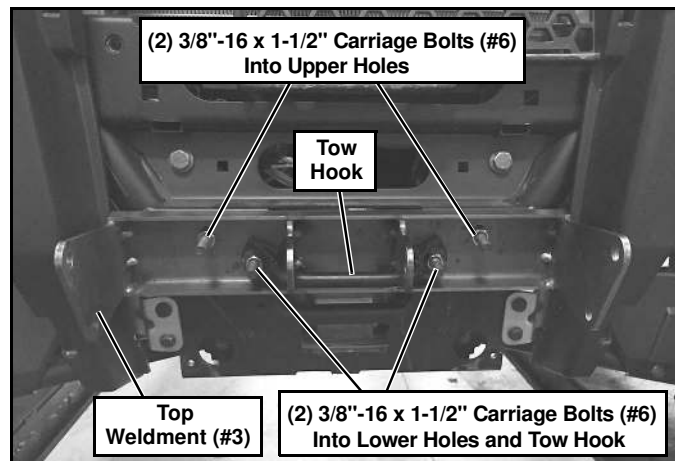

Figure 5
- Align the slots in the Top Weldment (#3) with the (4) square holes in the vehicle frame. The lower slots in the Top Weldment (#3) align with the holes that the tow hook was attached too. Place the tow hook over top of the Top Weldment (#3) aligned with the lower slots. (See Figure 5.)
- Insert (2) 3/8"-16 x 1-1/2" Carriage Bolts (#6) into the upper square holes in the vehicle frame and through the Top Weldment (#3). Secure with (2) 3/8" Flat Washers (#10) and (2) 3/8"-16 Lock Nuts (#9). Insert (2) 3/8"-16 x 1-1/2" Carriage Bolts (#6) into the lower square holes in the vehicle frame, through the Top Weldment (#3), and through the tow hook. Secure with (2) 3/8" Flat Washers (#10) and (2) 3/8"-16 Lock Nuts (#9). (See Figure 5.)